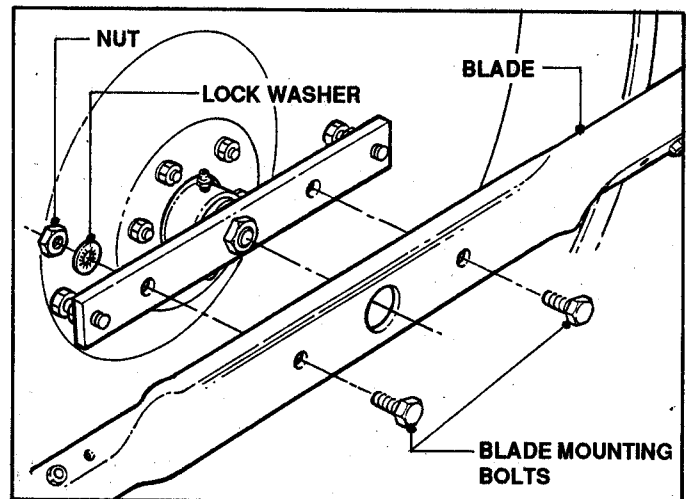

FIGURE 4.20
2. Remove blade. See Figure 4.20.
- Reinstall blade. Refer to Figure 4.20. Torque blade mounting bolts to 45-55 ft. lbs.